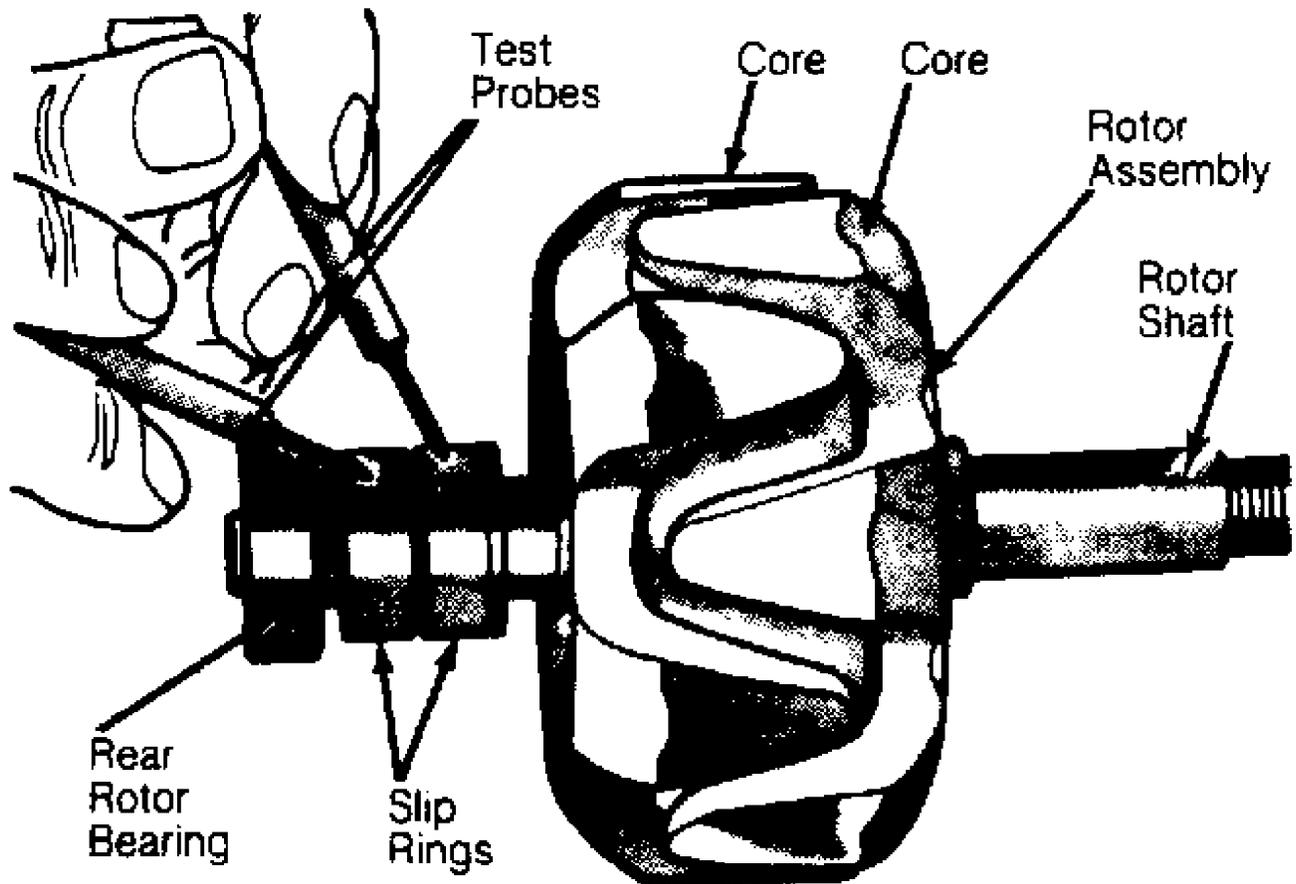

Fig. 11: Testing Rotor Coils
3) Test should show open circuit. If failure is detected in either test, replace rotor assembly. See Figs. 11 and 12.